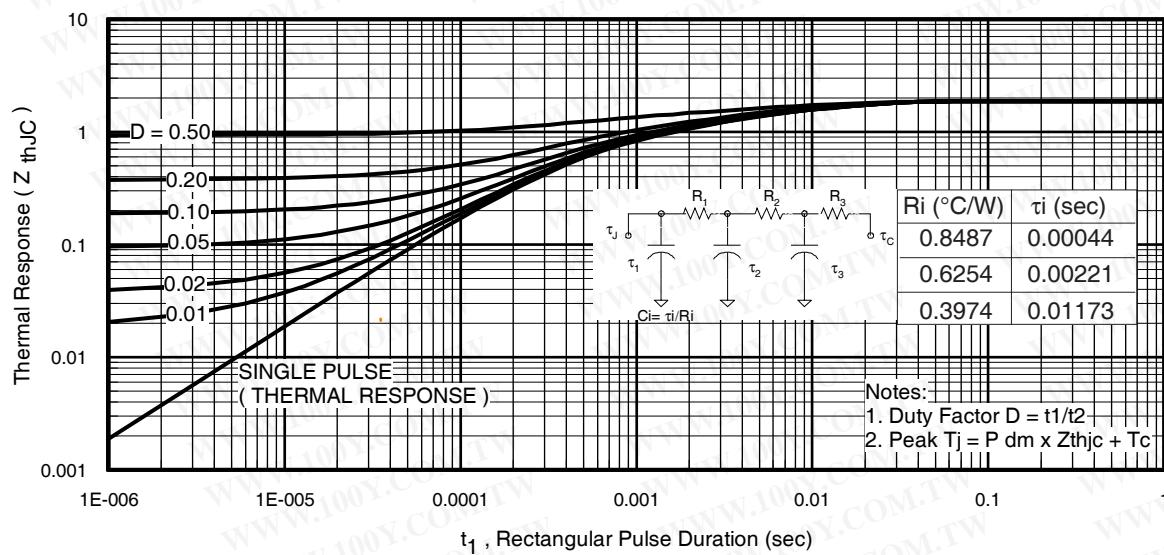
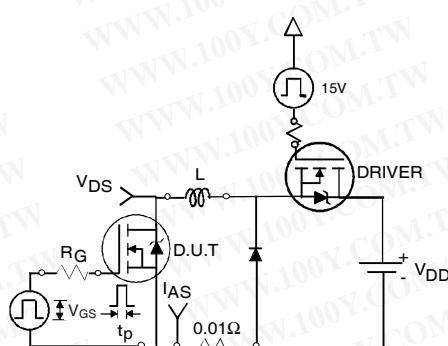

Fig 11. Maximum Effective Transient Thermal Impedance, Junction-to-Case
Fig 12a. Unclamped Inductive Test Circuit
- ① Repetitive rating; pulse width limited by max. junction temperature. (See fig. 11).
- ② Limited by $T_{J\text{max}}$, starting $T_J = 25^\circ\text{C}$, $L = 0.18\text{mH}$, $R_G = 25\Omega$, $I_{AS} = 31\text{A}$, $V_{GS} = 10V$. Part not recommended for use above this value.
- ③ $I_{SD} \leq 31\text{A}$, $di/dt \leq 840\text{A}/\mu\text{s}$, $V_{DD} \leq V_{(\text{BR})\text{DSS}}$, $T_J \leq 175^\circ\text{C}$.
- ④ Pulse width $\leq 1.0\text{ms}$; duty cycle $\leq 2\%$.
- ⑤ $C_{oss \text{ eff.}}$ is a fixed capacitance that gives the same charging time as C_{oss} while V_{DS} is rising from 0 to 80% V_{DSS} .
- ⑥ Limited by $T_{J\text{max}}$, see Fig.12a, 12b, 15, 16 for typical repetitive avalanche performance.
- ⑦ This value determined from sample failure population. 100% tested to this value in production.
- ⑧ This is applied to D²Pak, when mounted on 1" square PCB (FR-4 or G-10 Material). For recommended footprint and soldering techniques refer to application note #AN-994.
- ⑨ R_θ is rated at T_J of approximately 90°C .
3. Equation below based on circuit and waveforms shown in Figures 12a, 12b.
$Z_{thJC}(D, t_{av})$ = Transient thermal resistance, see figure 11)